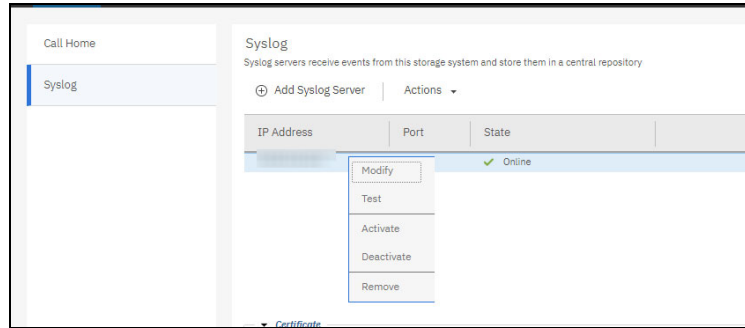

Figure 9-31 Modify Syslog configuration
- After the required syslog servers are created, you can **Modify**, **Test**, **Activate**, **Deactivate**, and **Remove** a selected syslog server, as shown in Figure 9-31.